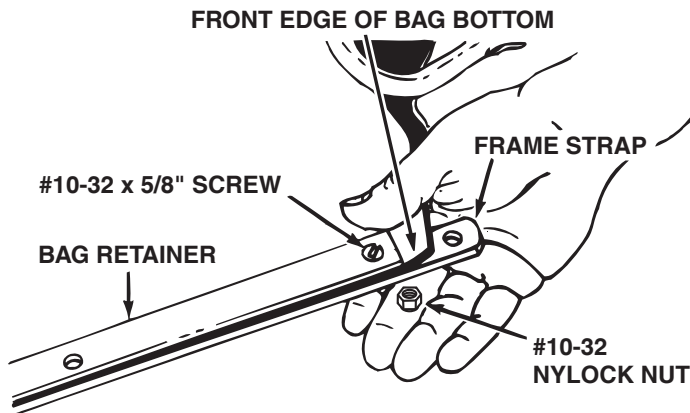

FIGURE 17
7. Assemble the bag retainer and the bag frame strap to the front edge of the bag bottom. Place the bag retainer on top and the bag frame strap underneath the bag bottom. Fasten together using six #10 x 5/8" screws and #10-32 nylock nuts. See figure 17.